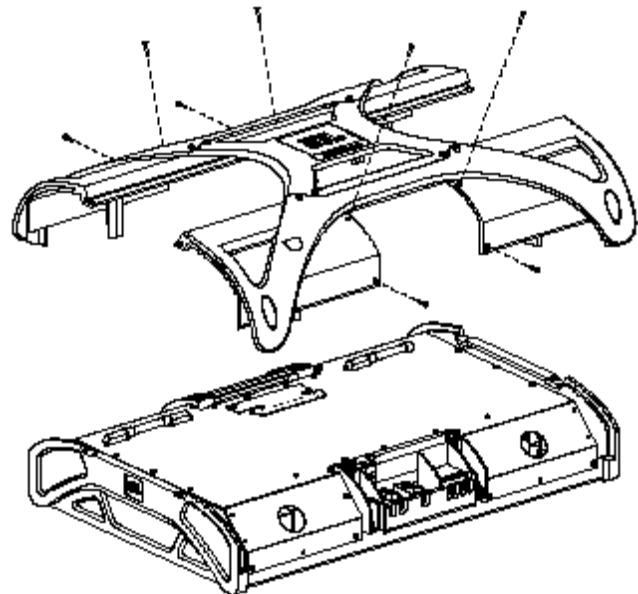

Figure 4.2 Top Cover Removal
5. Using a T-15 screwdriver, remove the four Torx-head screws in the top cover around the output. (Figure 4.2)
6. Using a T-15 screwdriver, remove the four Torx-head screws in the top cover around the input. (Figure 4.2)